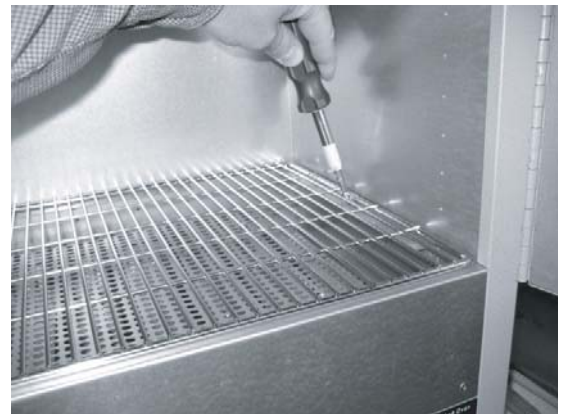

FIG.1
1. Unplug unit and confirm that it is at room temperature. Remove any shelves and the fixed bottom shelf (2 to 3 screws). (FIG 1)